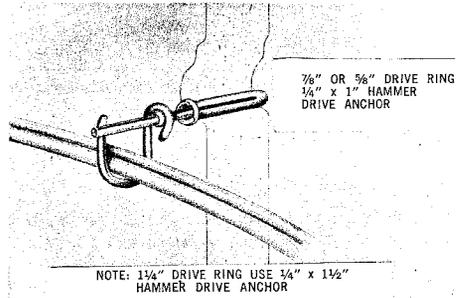

Fig. 6A — Drive Rings
- Install rings on brick or masonry surfaces with hammer drive anchor as indicated in Fig. 6A.